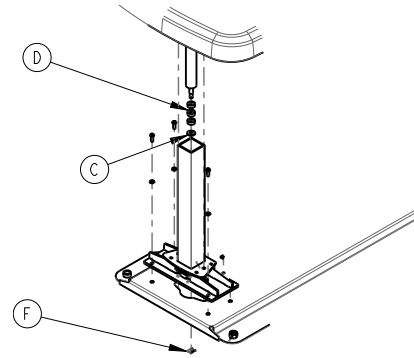

Figure 16 – Gas cylinder shaft
10. Grab the shaft of the gas cylinder and pull up to remove the gas cylinder from the base support bracket. Remove and save the washers (D), bumpers (C), and clip (F) (Figure 16). Discard the gas cylinder.